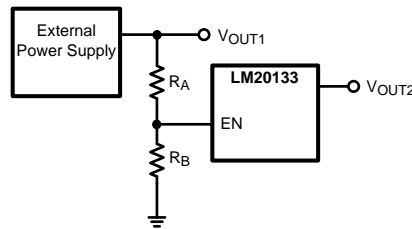

Figure 7. Sequencing LM20133 with Precision Enable
The LM20133 has a built-in under-voltage lockout protection circuit that keeps the device from switching until the input voltage reaches 2.7V (typical). The UVLO threshold has 45 mV of hysteresis that keeps the device from responding to power-on glitches during start up. If desired the turn-on point of the supply can be changed by using the precision enable pin and a resistor divider network connected to VIN as shown in Figure 7 in the design guide.
The precision enable (EN) and power good (PGOOD) pins of the LM20133 can be used to address many sequencing requirements. The turn-on of the LM20133 can be controlled with the precision enable pin by using two external resistors as shown in Figure 7.